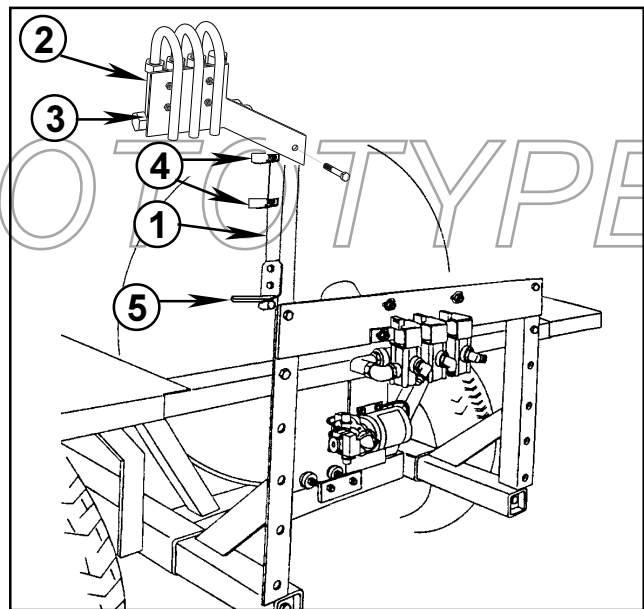

FIG. 4
3. Assemble the Cross Support Angle, Flow Monitor Mount and Flow Monitor Mount Extender Bracket onto the Boom Mount Assemblies with (2) 1/2" x 1-1/4" hex hd. cap screws and lock nuts as per FIG 4.
4. Assemble (2) R-Clamps and Hose Bracket complete with grommet onto the Flow Monitor Extender Bracket using (4) 5/16" x 3/4" UNC hex hd. cap screws and nuts.